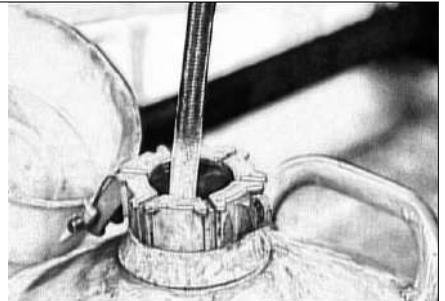

Fig 5-13 Freezing of Intake & Exhaust Valve Seats in Liquid Nitrogen
2.1 The YTO-series engines use united structure cylinder heads. Froze intake & exhaust valve seats into -180 degree liquid nitrogen, then install them into cylinder head (Fig 5-13).